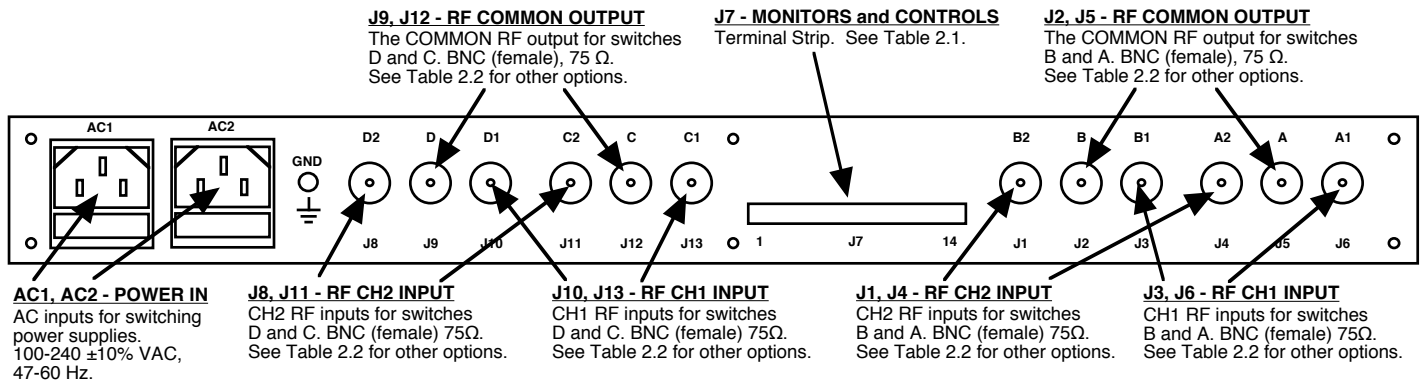

FIGURE 2.2 1582-70L2 RF Switch Rear Panel Inputs/Outputs
Figure 2.2 shows the input and output connectors on the rear panel.
4. Connect to signals on the MONITORS AND CONTROLS connector, J7, as desired (see Figure 2.2, Table 2.1).